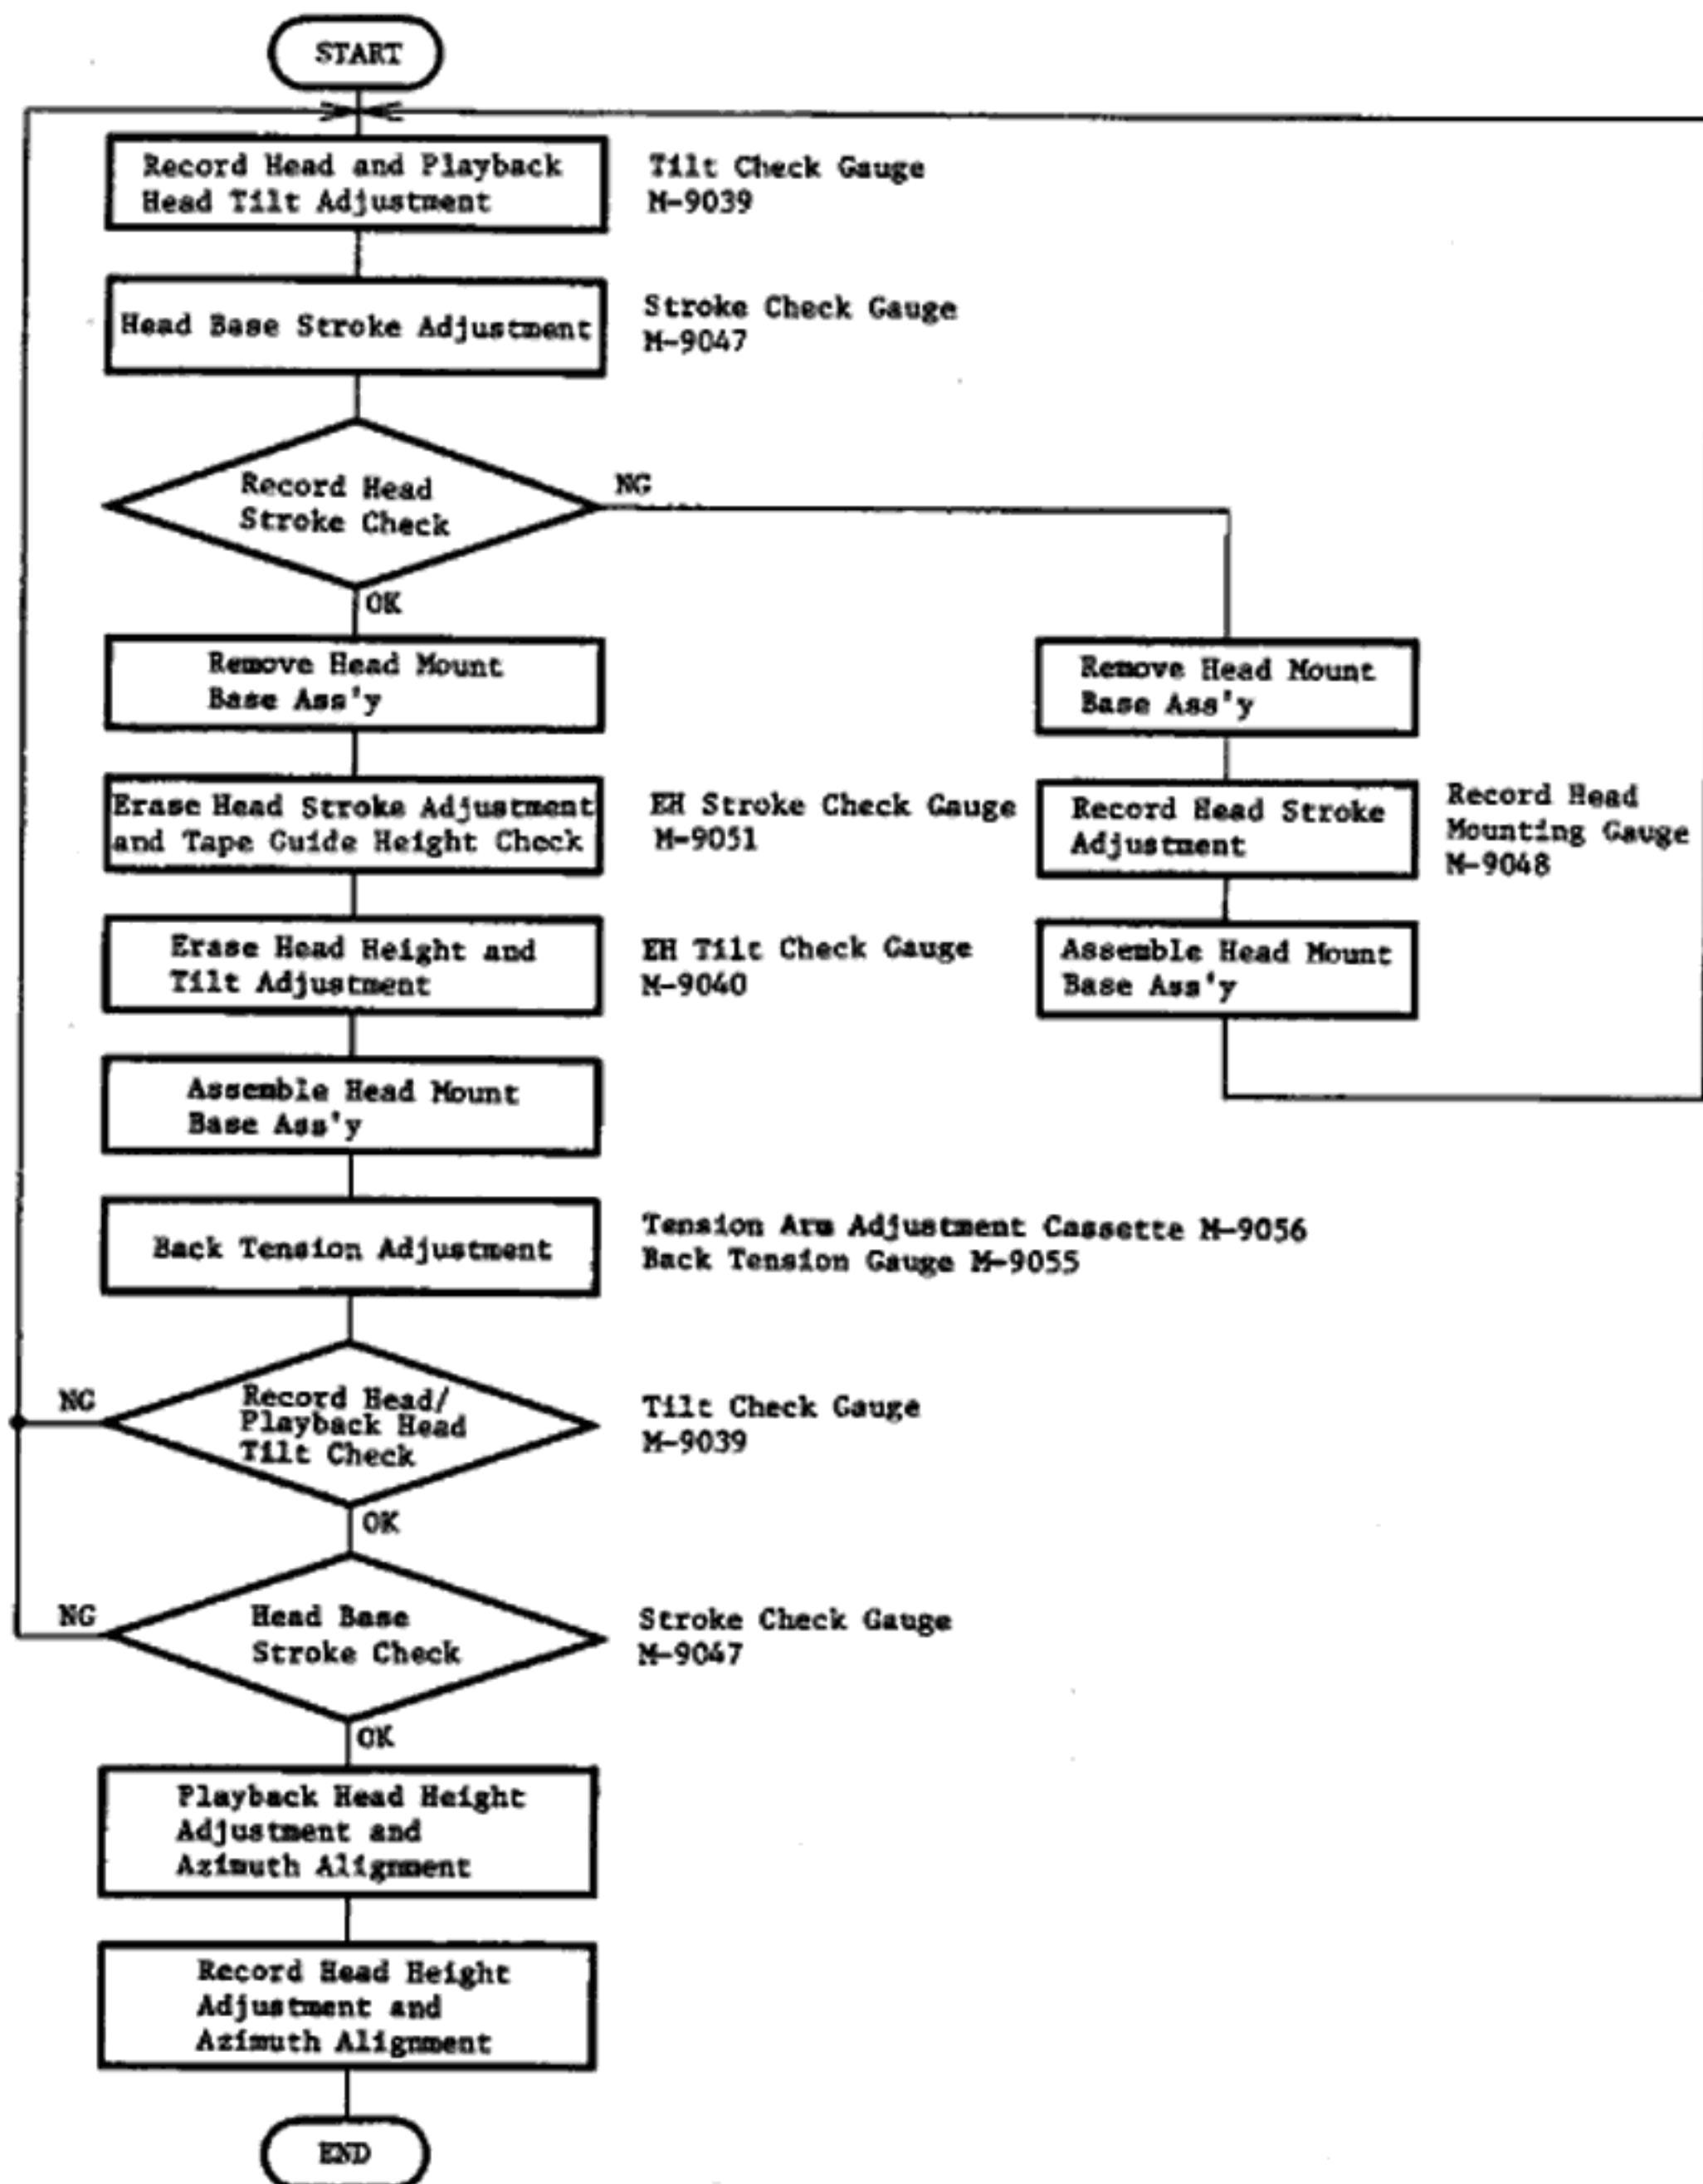
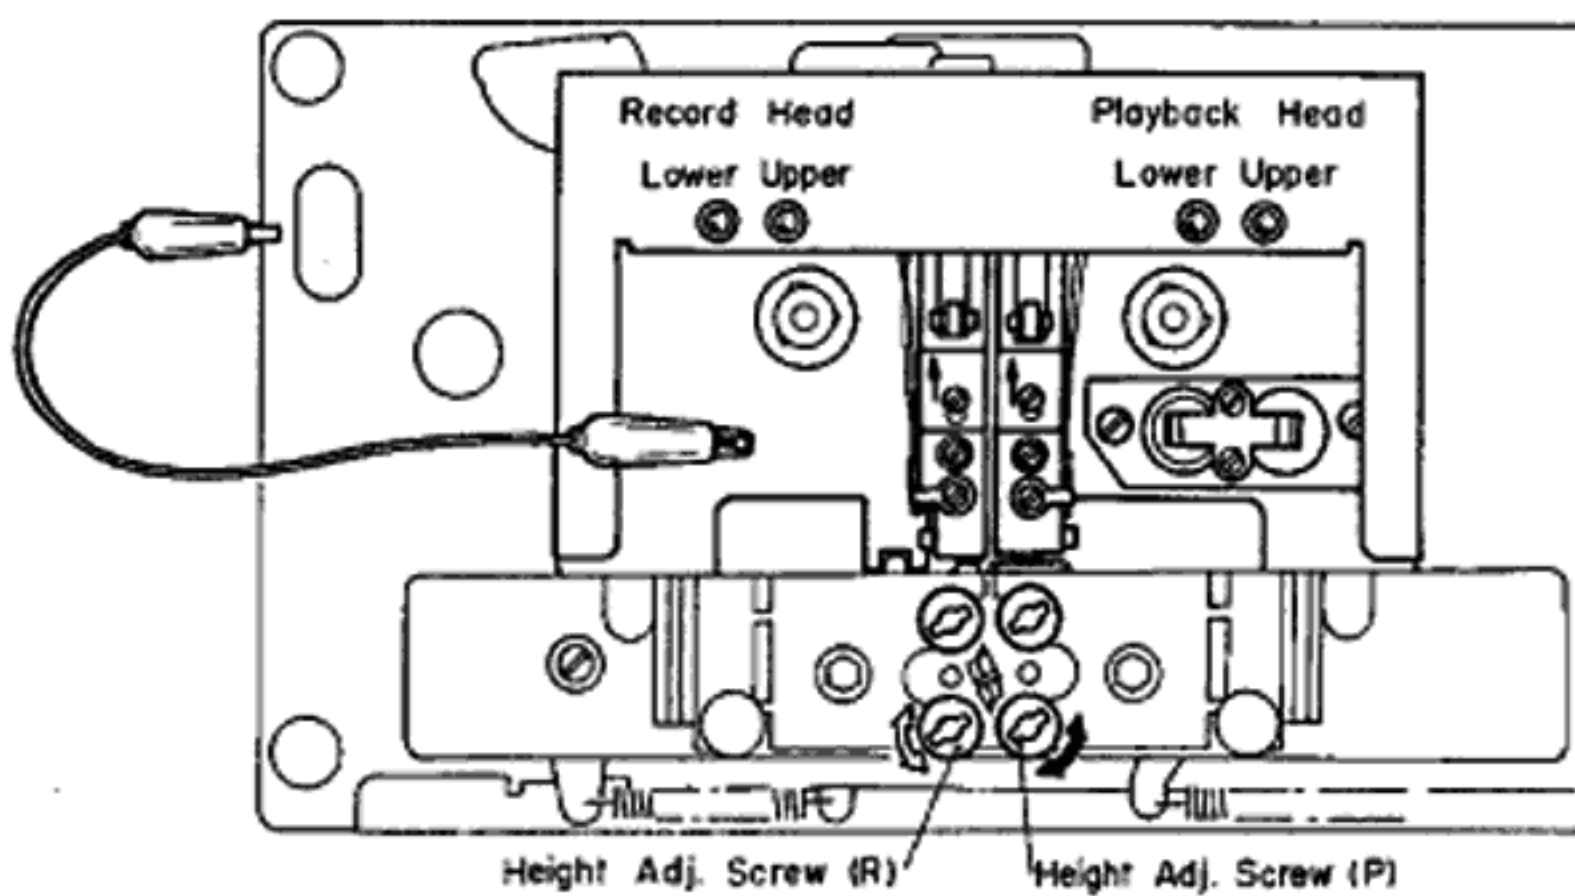

Fig. 4.4
Fig. 4.5
Note: On items 4.3 - 4.9, refer to Fig. 4.4 flow chart. Refer to Figs. 4.5 and 4.6.
- (1) Load a Tilt Check Gauge M-9039 (DA09039A) in the ZX-7.
- (2) Clip the grounding terminal of the Tilt Check Gauge with one end of the cord with clip, and the chassis of the ZX-7 with the other end.
- (3) Remove both of the Height Gears.
- (4) Set the ZX-7 in Play mode. Check to insure whether the Beacons Playback Head "Upper" or "Lower" and Record Head "Upper" or "Lower" are illuminating. In order not to give damages onto the head surfaces, push both of slide knobs of the Gauge to the direction of arrow marks, then return them to the original place to be in contact with record head and playback head surfaces after Play mode is securely locked.
- (5) Check to insure freedom from contact between the Gauge and pad lifter.
- (6) Beacon Playback Head "Lower" will light on when height adjustment screw (P) turned clockwise but Playback Head "Upper" when counterclockwise. Adjust so that both "Upper" and "Lower" will light on even when you move the slide knob to the direction of an arrow mark and then return them to the original place.
- (7) Same procedures will apply to the Beacons Record Head "Upper" and "Lower", except for the height adjustment screw (R).
- (8) Set the ZX-7 in Stop mode and fit both of the serrated Height Gears. Then set the ZX-7 again in Play mode and insure all of the 4 Beacons are illuminating. If not, (3) through (7) will have to be repeated till satisfactory results are obtained.